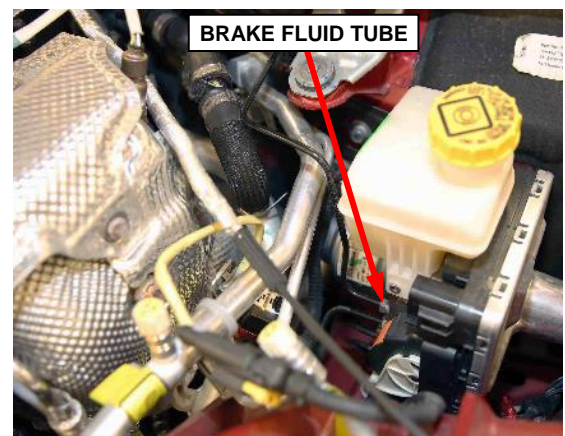

Figure 41 – Brake Fluid Tube
57. Disconnect the brake fluid tube from the IBS control module (Figure 41).
68. Fasten the brake fluid tube to the IBS control module connector and tighten to 16 N·m (12 ft. lbs.) (Figure 41).